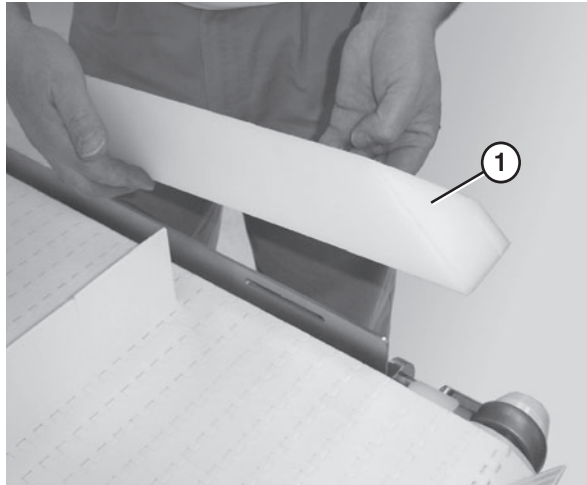

Figure 46
2. Remove the guide (**Figure 46, item 1**).